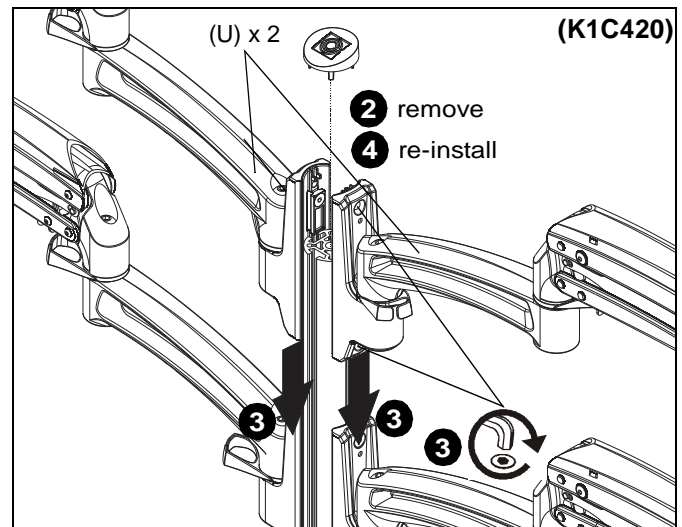

Figure 11
1. Loosely install two #10-24 x 5/8" flat head cap screws (W) through holes on each K1C420 arm (U) and into two #10-24 square nuts (X). (See Figure 11)
3. Slide arms (U) into column grooves at desired mounting height. Tighten two screws on base of each arm to secure K1C420 arms (U) to column. (See Figure 11)